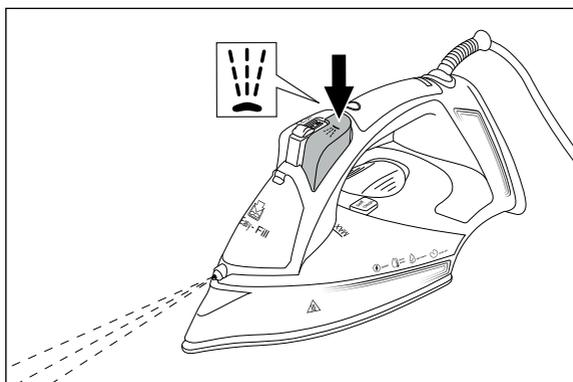

Fig. 8
- 3) Press the button for the spray function  5 (see Fig. 8).